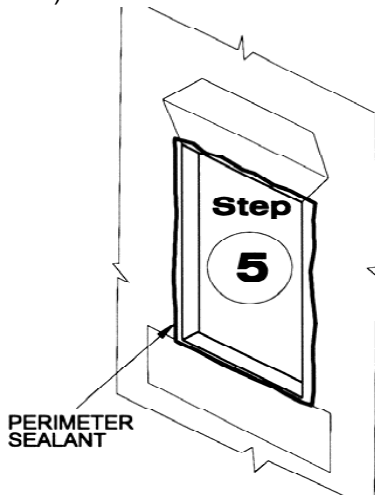

Figure 6 Apply perimeter sealant.
Step 5. Apply seal around perimeter opening or to backside of window fin (see Figure 6).